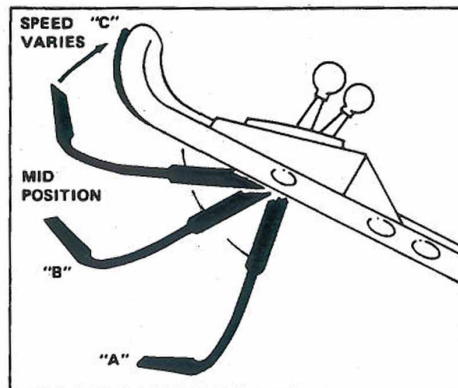

Figure 11
**Note:** For starting system break-in during first hour of operation, move control bar to position "A" (Fig. 11), then raise to mid position and hold while turning key.
5. **BLADE AND TRACTION OPERATION (Fig. 11)** — Move control bar down to "A" and raise to engage blade "B". Move ground speed control to desired setting and squeeze control bar against handle "C" to drive. Ground speed varies, depending on space between control bar and handle. To disengage traction drive, but keep blade engaged, gradually release control bar to mid position. To self-propel with blade disengaged, simply squeeze control bar against handle, eliminating downward movement necessary for blade engagement.